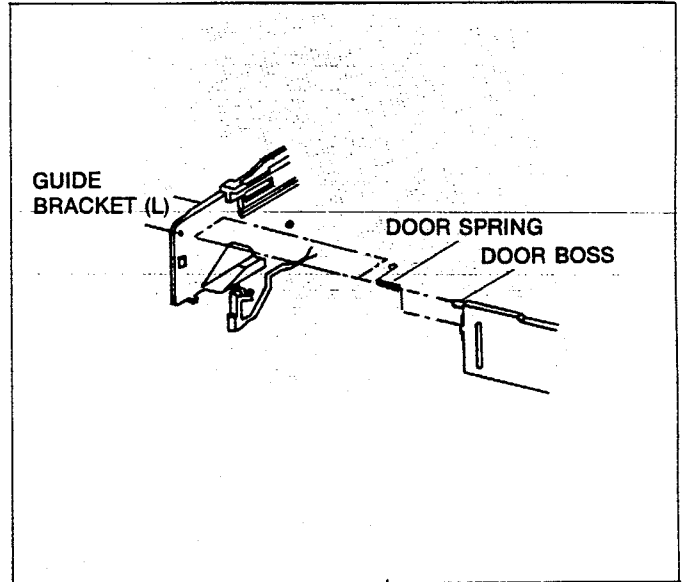

Fig. 43
3. Insert Door spring to the left door boss of new F/L Door in the direction indicated by the arrow as shown in Fig. 43.
4. Hooking one end of the Door spring on A of (L) Guide Bracket and the other end on (B) of F/L Door, insert the left door boss to the hole provided on (L) Guide Bracket. (Refer to Fig. 43)